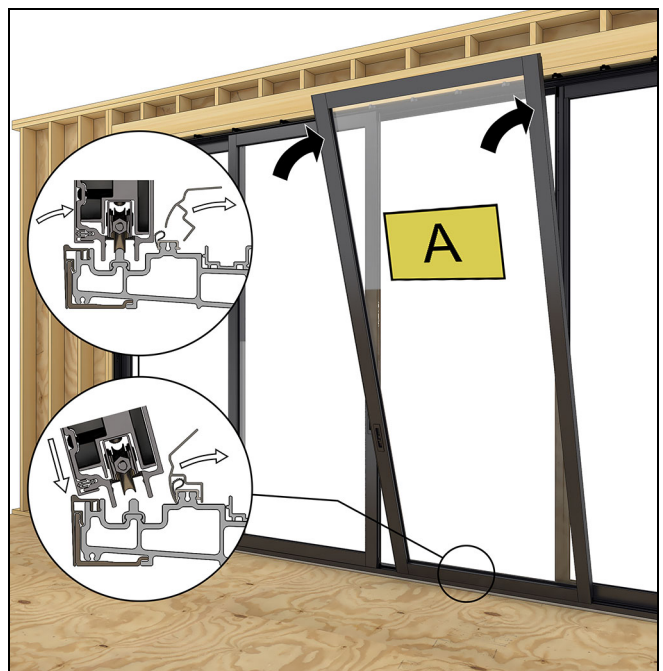

Figure 121
5. Install the (A) operator panel. Overlap the stationary panel by a few inches and tip into place. See Figure 121.